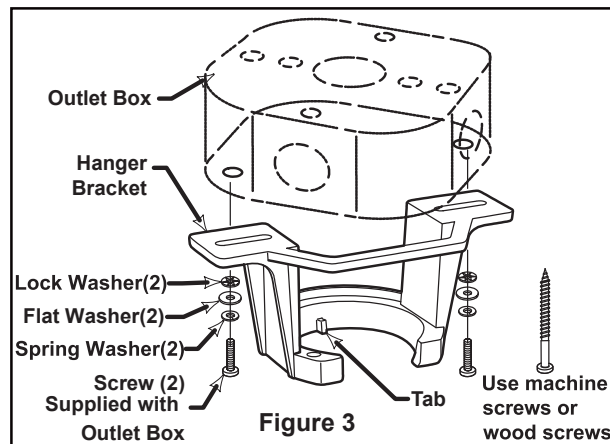

Figure 3
- Loosen the two set screws in the downrod support of the motor assembly. Route the wires through the downrod. (Figure 3)
- ☐ Securely attach the hanger bracket to the outlet box using the outlet box screws and washers supplied with the outlet box. (Figure 3)